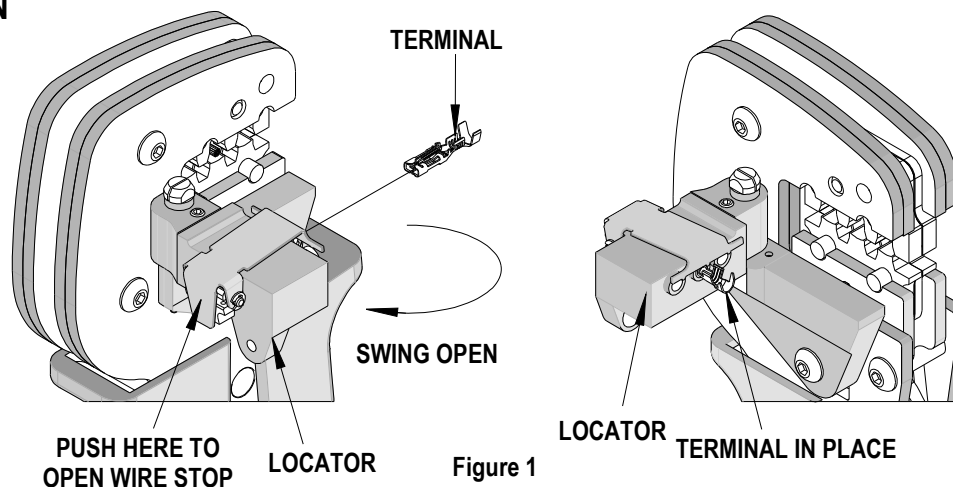
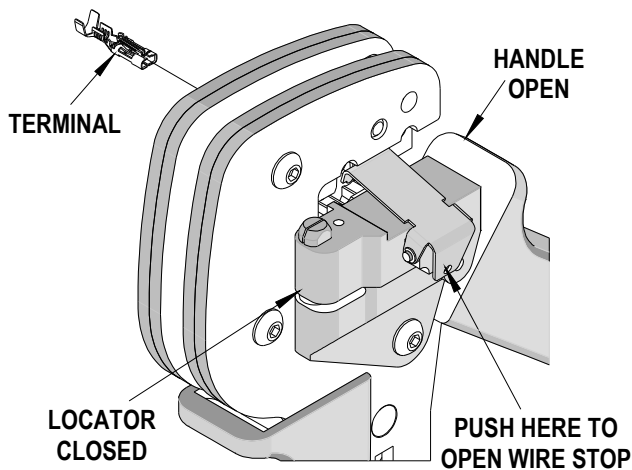

Figure 1
Figure 2
2. Swing the terminal locator away from the crimp tool shown in Figure 1. Some terminals with large insulation grips may interfere with the crimp tooling when swinging the locator into position. The terminal must then be loaded into the locator in the closed/crimp position. See Figure 2.
3. Press down on the wire stop on the locator as shown in Figure 1. Insert the proper terminal into the proper nest opening. Make sure when choosing the nest opening, it will correspond with the A, B or C profile on the hand tool.